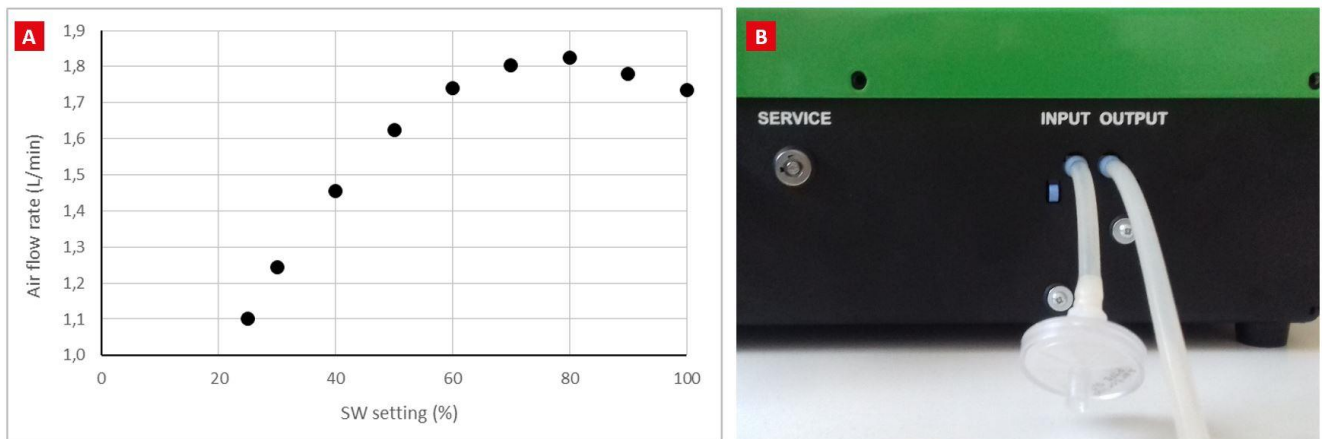

Fig. 5 TS Air pump.
The new Turbidostat module 1100 accommodates its own turbidostatic Air pump (TS Air pump) to guarantee a continuous air supply and mixing of the biomass in all testing vessels. The TS Air pump has higher power compared to the standard Multi-Cultivator's Air pump. Typically, the range of TS Air pump runs between 1.1 – 1.8 l/ml under recommended connection with an air filter connected to the input tubing. This range corresponds to an intensity of approximately 25 – 70 % that can be adjusted by the Bioreactor control software (see Fig. 5). The input and output of the TS Air pump is located on the rear side of the Turbidostat module (Fig. 5).
- Connect a short piece of silicon tubing (\varnothing 3/6 mm) to the TS Air pump input. Connect the Minisart filter through a Female Luer Thread to the end of the silicon tubing (Fig. 5).
- Connect the TS Air pump output (Fig. 5) through the silicon tubing (\varnothing 3/6 mm) with the Teflon runner of the Multi-Cultivator MC 1000.
The use of the inbuilt TS Air pump is recommended for the biomass aeration. The Bioreactor control software allows to switch on and regulate the TS Air pump instead of the standard Air pump. The TS Air pump can be controlled in the range from 25 to 100 %. For the relation between intensity of TS Air pump (%) and its flow rate (l/min) see Fig. 5.